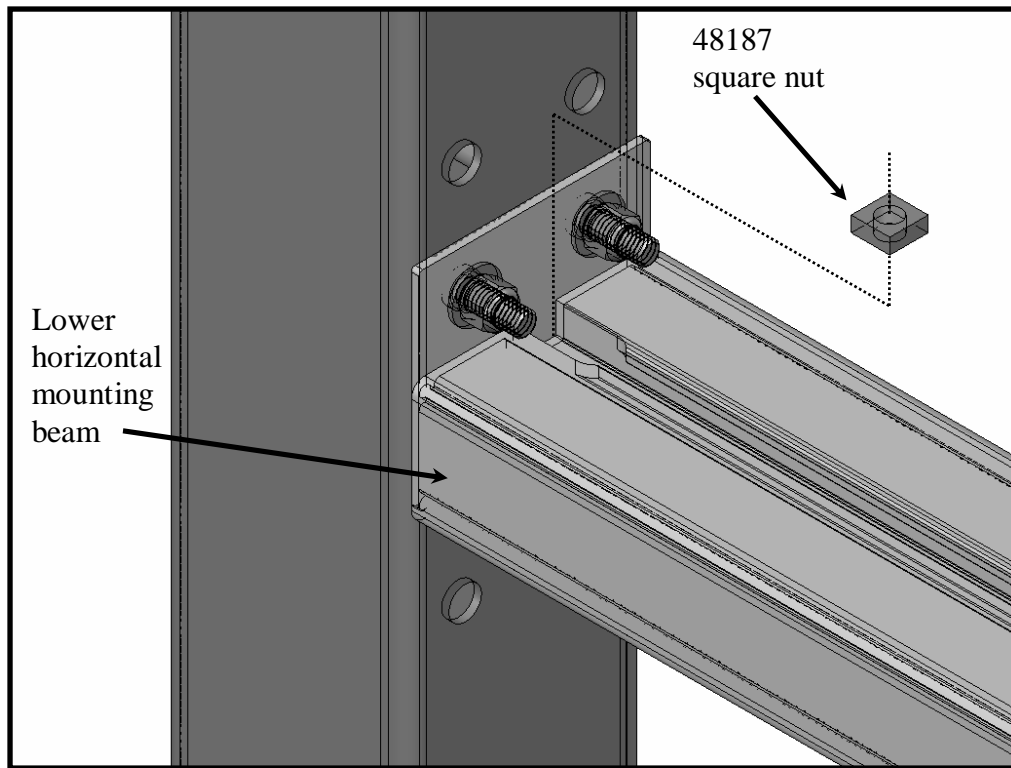

Figure 13 – Installation of casing nuts
- a) Insert (2) 48187 square nuts for each cabinet in both the upper and lower beams through the enlarged area and slide down as needed to make room for each subsequent nut. See Figures 13 and 14.